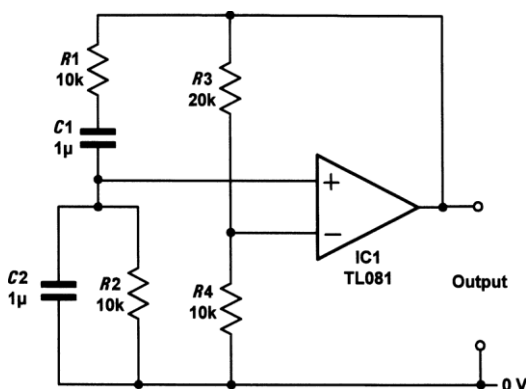

Figure 9.24 See Questions 9.9 and 9.10.
- 9.9 Explain, briefly, how the Wien bridge oscillator shown in Fig. 9.24 operates. What factors affect the choice of values for R_3 and R_4 ?
- 9.10 Determine the output frequency of the signal produced by the circuit shown in Fig. 9.24.